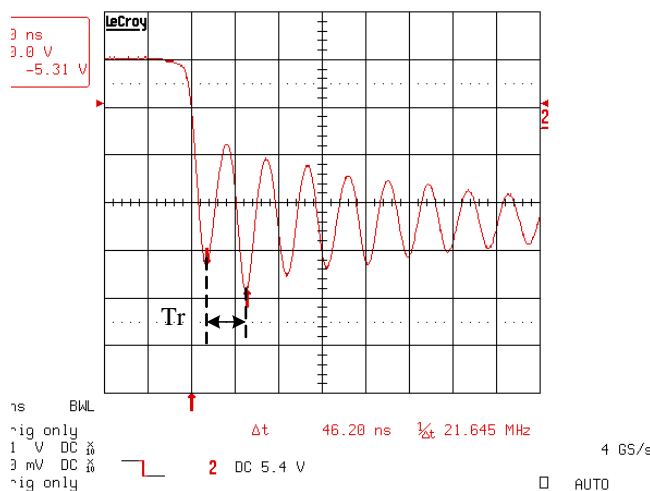

Figure 25. Diode Voltage without C_{dsn}
- (a) Measure the original resonance period (Tr) of the diode voltage without RC filter, as shown in Fig. 25.